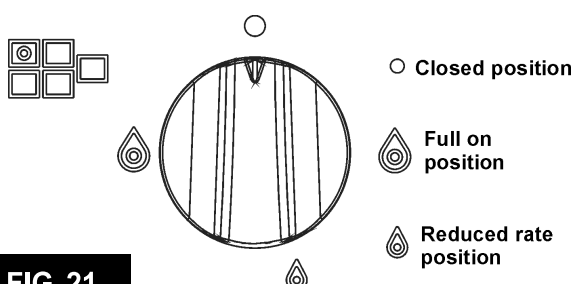

FIG. 21
Push and turn the knob corresponding to the required burner in an anticlockwise direction until it reaches the full on position (large flame fig. 21), then place a lighted match near the burner.
Push and turn the knob corresponding to the required burner in an anticlockwise direction until it reaches the full on position (large flame fig. 21), then depress and release the ignition button.
Push and turn the knob corresponding to the required burner in an anticlockwise direction until it reaches the full on position (large flame fig. 21), then depress the knob.
The knobs of burners equipped with flame failure device must be turned in an anticlockwise direction until they reach the full on position (large flame fig. 21) and come to a stop. Now depress the knob in question and repeat the previously indicated operations.
- When the pan comes to the boil, set the knob to the reduced rate position (small flame fig. 21).